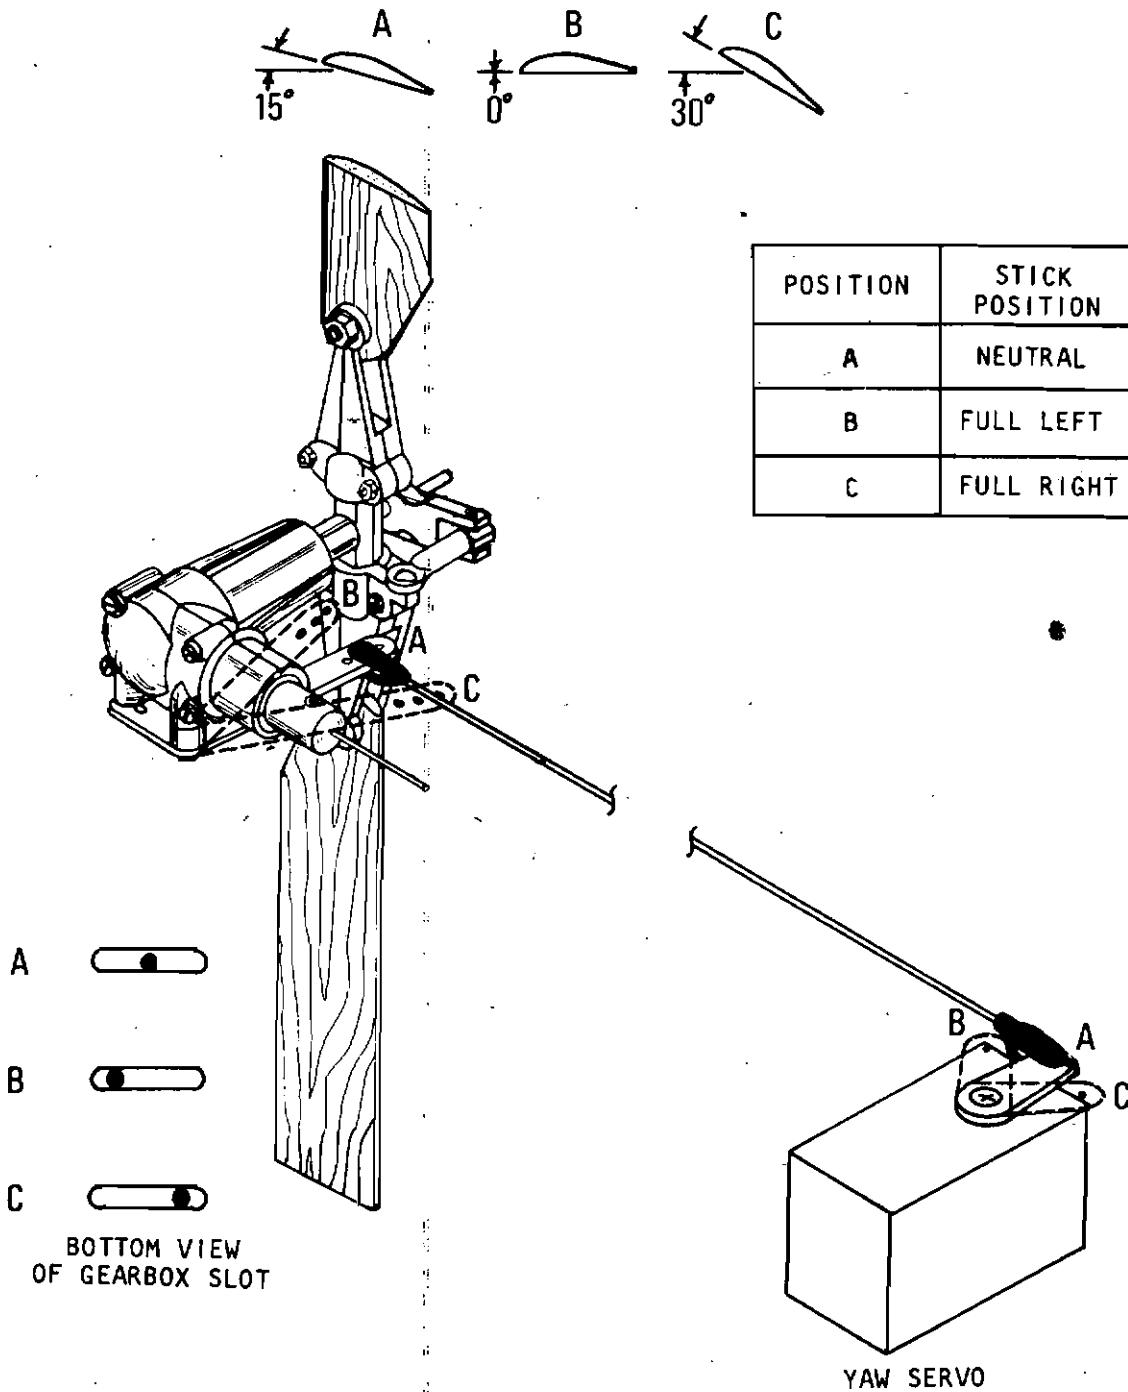

Figure 15
#### Tail Rotor Control Set-up - see Figure 15
- A. Set the rudder servo arm at neutral position and, at this setting, the control rod from the rudder servo to the tail control lever should be adjusted in LENGTH until the PIN in the gearbox SLOT is CENTERED (see position 'A' in Figure 15).
- B. NOW, DON'T TOUCH (A) again and do the following: adjust the LENGTH of the rudder SERVO ARM (the distance from the pivot to the point where the tail wire is fixed) so that, with full left to right rudder stick movement (including the additional movement added by the trim lever also), the pin moves NEARLY (say 80%) the full amount of the movement that the slot will permit (see positions 'B' and 'C' in Figure 15).
C. NOW, DON'T TOUCH the adjustments made in (A) or (B) again. Set the collars which position the pitch control plate on the pitch control wire so that, with FULL LEFT stick on the transmitter, the flat surface of the tail blades are approximately parallel to the line of flight (see position 'B' in Figure 15).
- D. NOW, when the rudder stick is NEUTRALIZED, the blades will look like position 'A' in Figure 15 and, when the rudder stick is full RIGHT, the blades will look like position 'C' in Figure 15.